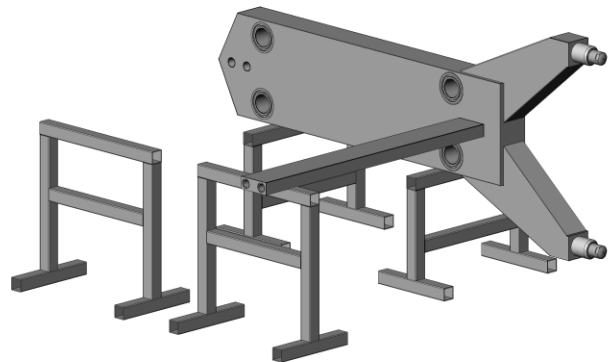

Figure 6-2
4. Position the bottom rail as shown in figure 6-2. Loosely bolt the bottom rail in place. It may be necessary to adjust the rail to install the end support.